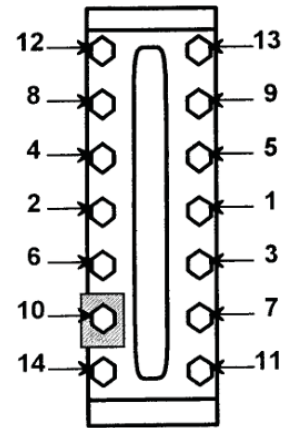
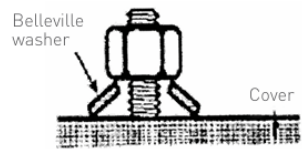

FIGURE 1
FIGURE 2
Using a torque wrench, tighten nuts in 5 ft-lbs (7 N•m) increments following the 'Z' pattern sequence in Figure 1, until the torque values shown in Table 3 above for the specific liquid level gauge are reached. For multiple section gauges, torque the center section(s) and progressively work toward the ends of the gauge.
Depending on gauge size there may be less bolting than shown in Figure 1. Start at the center and follow 'Z' pattern outward to the limit of bolting on a specific gauge.
Model RM & RMR gauges require 4 washers per nut; model TM, TMR gauges require 2 washers per nut (4 per bolt). Washers should be assembled with cupped side facing the gauge cover. Refer to Figure 2 for proper washer assembly.
The following procedure is to be done on only one side of a transparent gauge. Using a torque wrench, tighten nuts in 5 ft-lbs (7 N•m) increments following the 'Z' pattern sequence found in Figure 1 until the torque values shown in Table 3 are reached.
4. For transparent belleville style gauges, thread nuts on stud, place two belleville washers under nut with pointed end toward the nut (see Figure 2), insert stud through each cover and lay out covers along bench, side by side, with liquid chamber. Use chamber to space covers and line them up with vision slots.
10. For reflex gauge, turn over assembly onto backside of U-bolts quickly. Assemble nameplate, washer and nuts to U-bolts. Tighten nuts with fingers. Using a torque wrench, tighten nuts in 5 ft-lbs (7 N•m) increments, following the sequence in Figure 1 until the torque values shown in Table 3 are reached.
15. Install nameplate, washer and nuts to bolts. Tighten nuts with fingers. Using a torque wrench, tighten nuts in 5 ft-lbs (7 N•m) increments, following the sequence in Figure 1 until the torque values shown in Table 3 are reached. A. For transparent belleville style gauges: install nameplate and two belleville washers under each nut with pointed end toward the nut (see Figure 2). Finger tighten nuts.
B. For reflex belleville style gauges: install nameplate and four belleville washers under each nut with pointed end toward the nut (see Figure 2). Finger tighten nuts.
16. Using a torque wrench, tighten nuts in 5 ft-lbs (7 N•m) increments, following the sequence in Figure 1, until the torque values shown in Table 3 are reached.